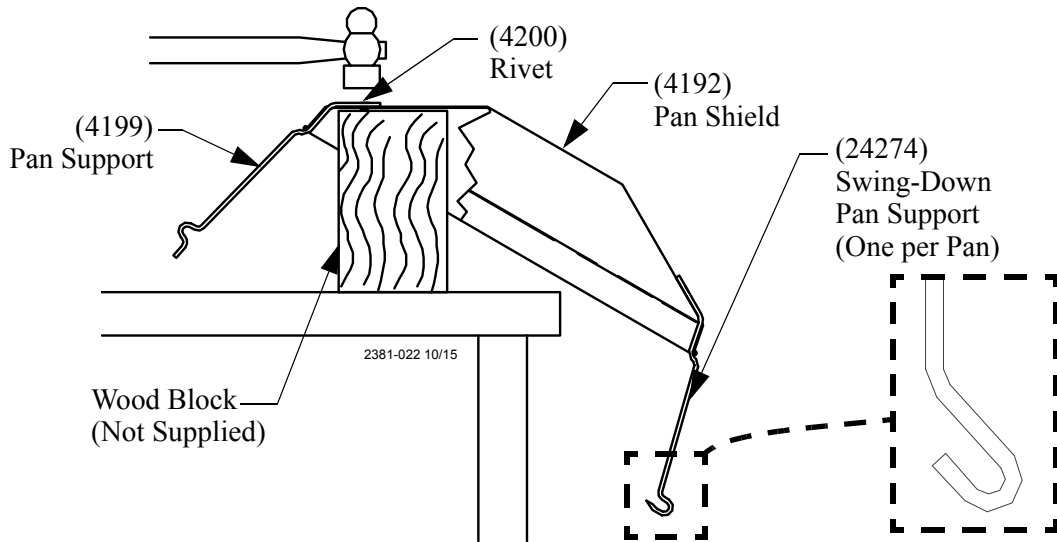

Figure 21. Pan Shield Assembly
1. For NON Swing-Down Pans attach four Pan Supports (4199) to each Pan Shield (4192) with the Rivets (4200) supplied as shown in **Figure 21**.
2. For Swing Down applications attach one Swing Down Pan Support (24274) and three regular Pan Supports (4199) to the Pan Shield using Rivets supplied. Always attach the Swing Down Pan support at the same location on all Pan Shields. It will be necessary to support the Pan Shield while installing the Rivets. Use a hammer to drive Rivets as shown in **Figure 21**.